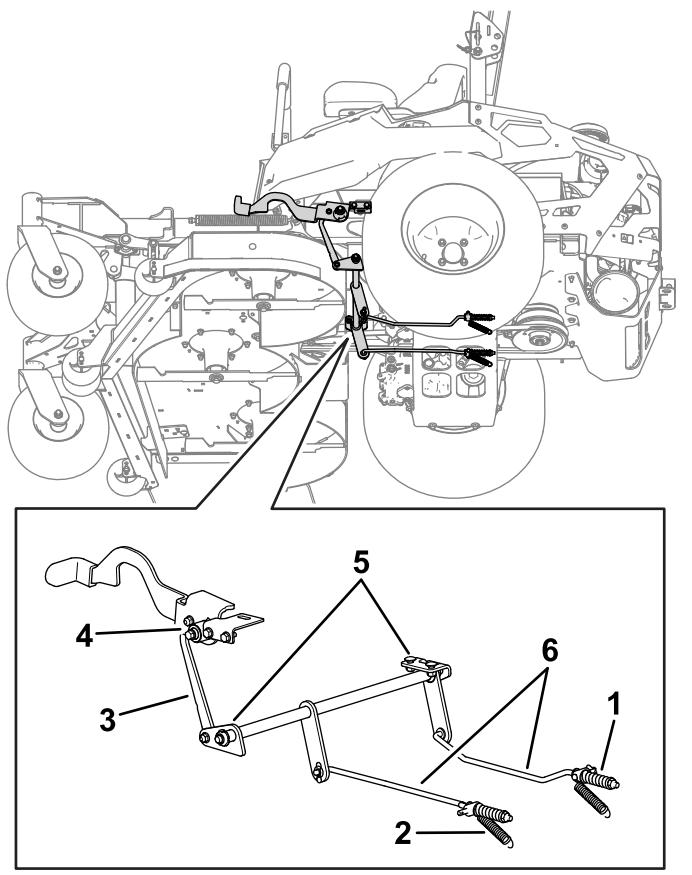

Figure 75
7. If an adjustment is necessary, disengage the parking brake. Inspect all components of the parking brake linkage for wear. Replace any worn components (Figure 75) and repeat step 6.